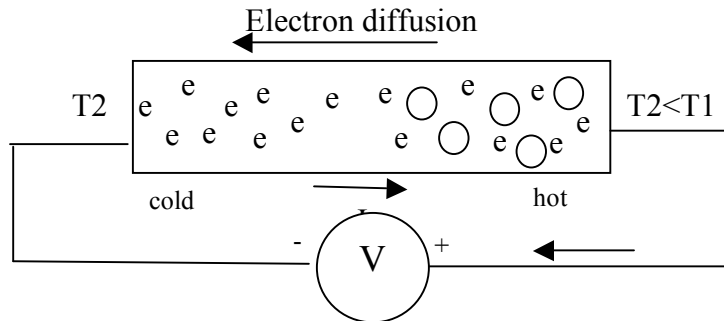

Figure 1: Electrons diffuse from the hot to cold side of the metal (Thompson EMF) or semiconductor leaving holes on the cold side.
1. Create a junction between Al-Cu (as shown in Figure 1, by twisting wires firmly together. Next you will use a chromel-alumel pair (provided).
3. Attach the voltmeter leads to the two free ends (as shown in Figure 1, above.) The test leads with the clips will be useful for this.